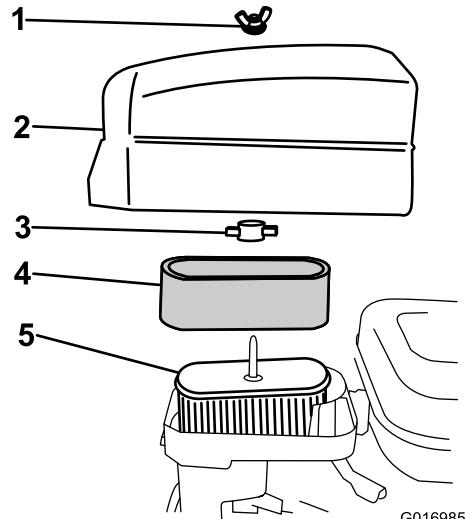

Figure 29
4. If the foam element is dirty, remove it from the paper element (Figure 29) and clean it thoroughly, as follows: